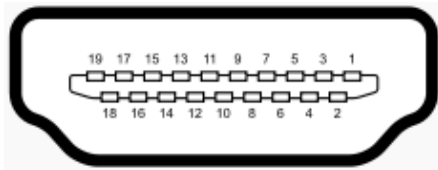

Figure 3-25: External HDMI Connector Location
- CN Location:** See **Figure 3-25**